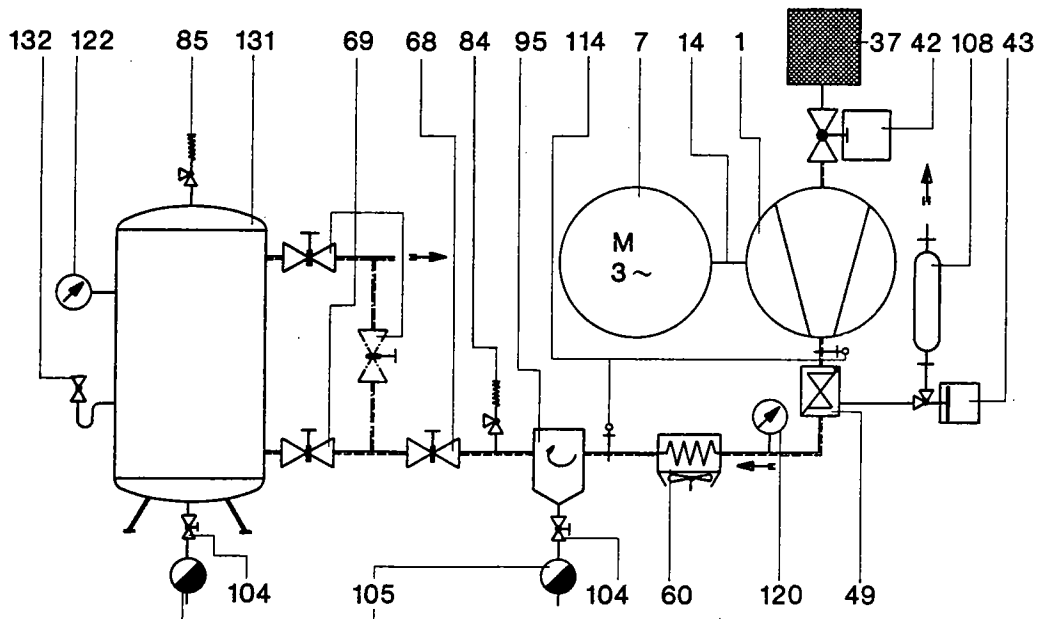
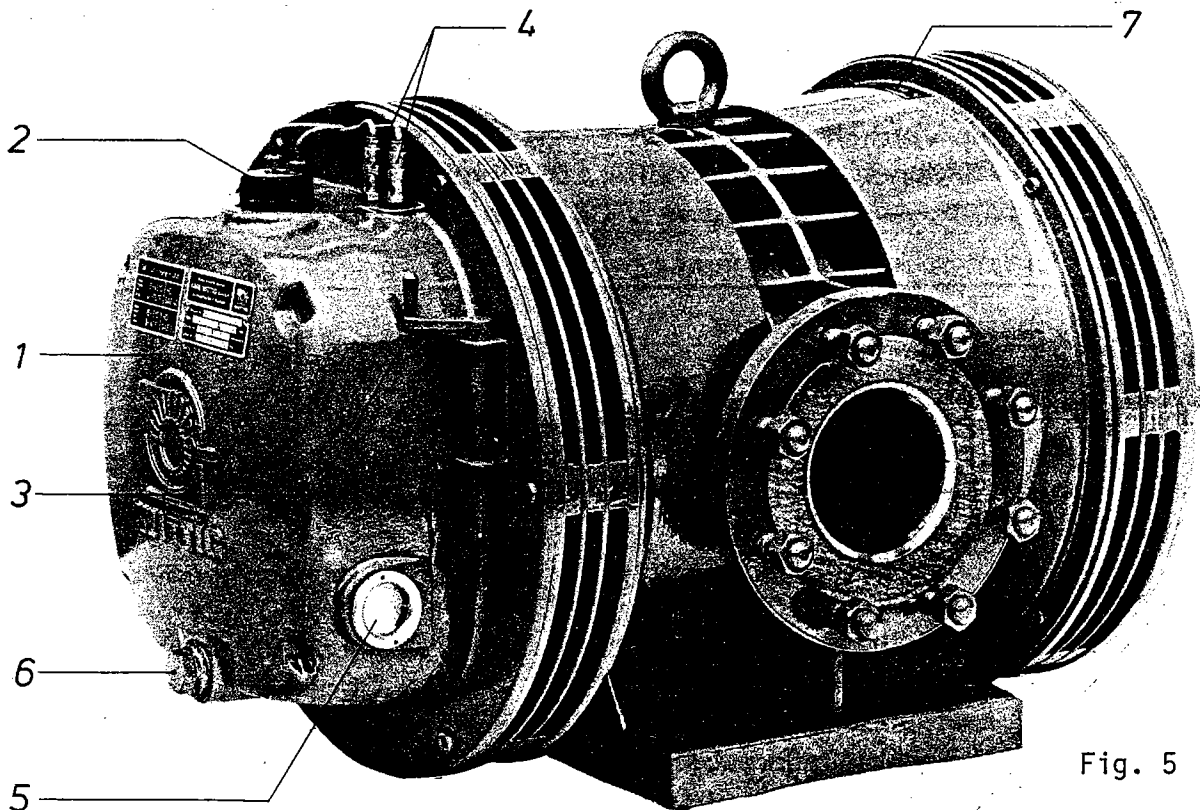

Fig. 4
Fig. 5
The arrangement of the components referred to in the following paragraphs can be seen in Figs. 4 and 5.
Our compressors should be equipped with an air filter (Fig. 4, item 37), which is fitted at the beginning of the suction pipe. The interval between oil changes can be considerably prolonged if a cyclone primary separator is installed. In lime works, brickyards, mines and glass works, the installation of this additional separator has proved well worth while.
A check valve (Fig. 4, item 49 and Fig.5, item 49 ) is supplied with all our compressors and vacuum pumps. The check valve is fitted close to the discharge port and serves to prevent any loss of the delivery pressure or vacuum.
The thermometer should be mounted in the pressure pipe immediately behind the discharge port ( Fig. 4, item 114 ).
#### 2.44 Safety Valve ( applies only to compressors : Fig.4, item 84 )
2.46 Compressed-air Reservoir ( Fig. 4, item 131 )
#### 2.47 Cooler ( Fig. 4, item 60 )
Compressors of types LPK 75 for overpressures greater than 1,5 bar and LPK 100 for overpressures greater than 1 bar, which feed a compressed-air reservoir ( or an extensive compressed-air mains ) must be equipped with a re cooler, which should be fitted immediately after the discharge port. A separator ( 95 ) should be installed behind the aftercooler (see Fig. 4).
#### 2.48 Separator ( Fig. 4, item 95 )
### 3 First Operation of the Plant ( Fig. 5 )
### 4.4 Oil tank ( Fig. 5 )
Whenever the oil level reaches the oil-level sight glasses (5) (Fig.5, item 5) the oil-tank should be topped up through the oil-filler (2) (for normal oil consumption, see Section 1).
The machine should be stopped, the plugscrew (Fig.5, item 6) removed, the old oil drained off and the oil tank rinsed out with Flushing oil.